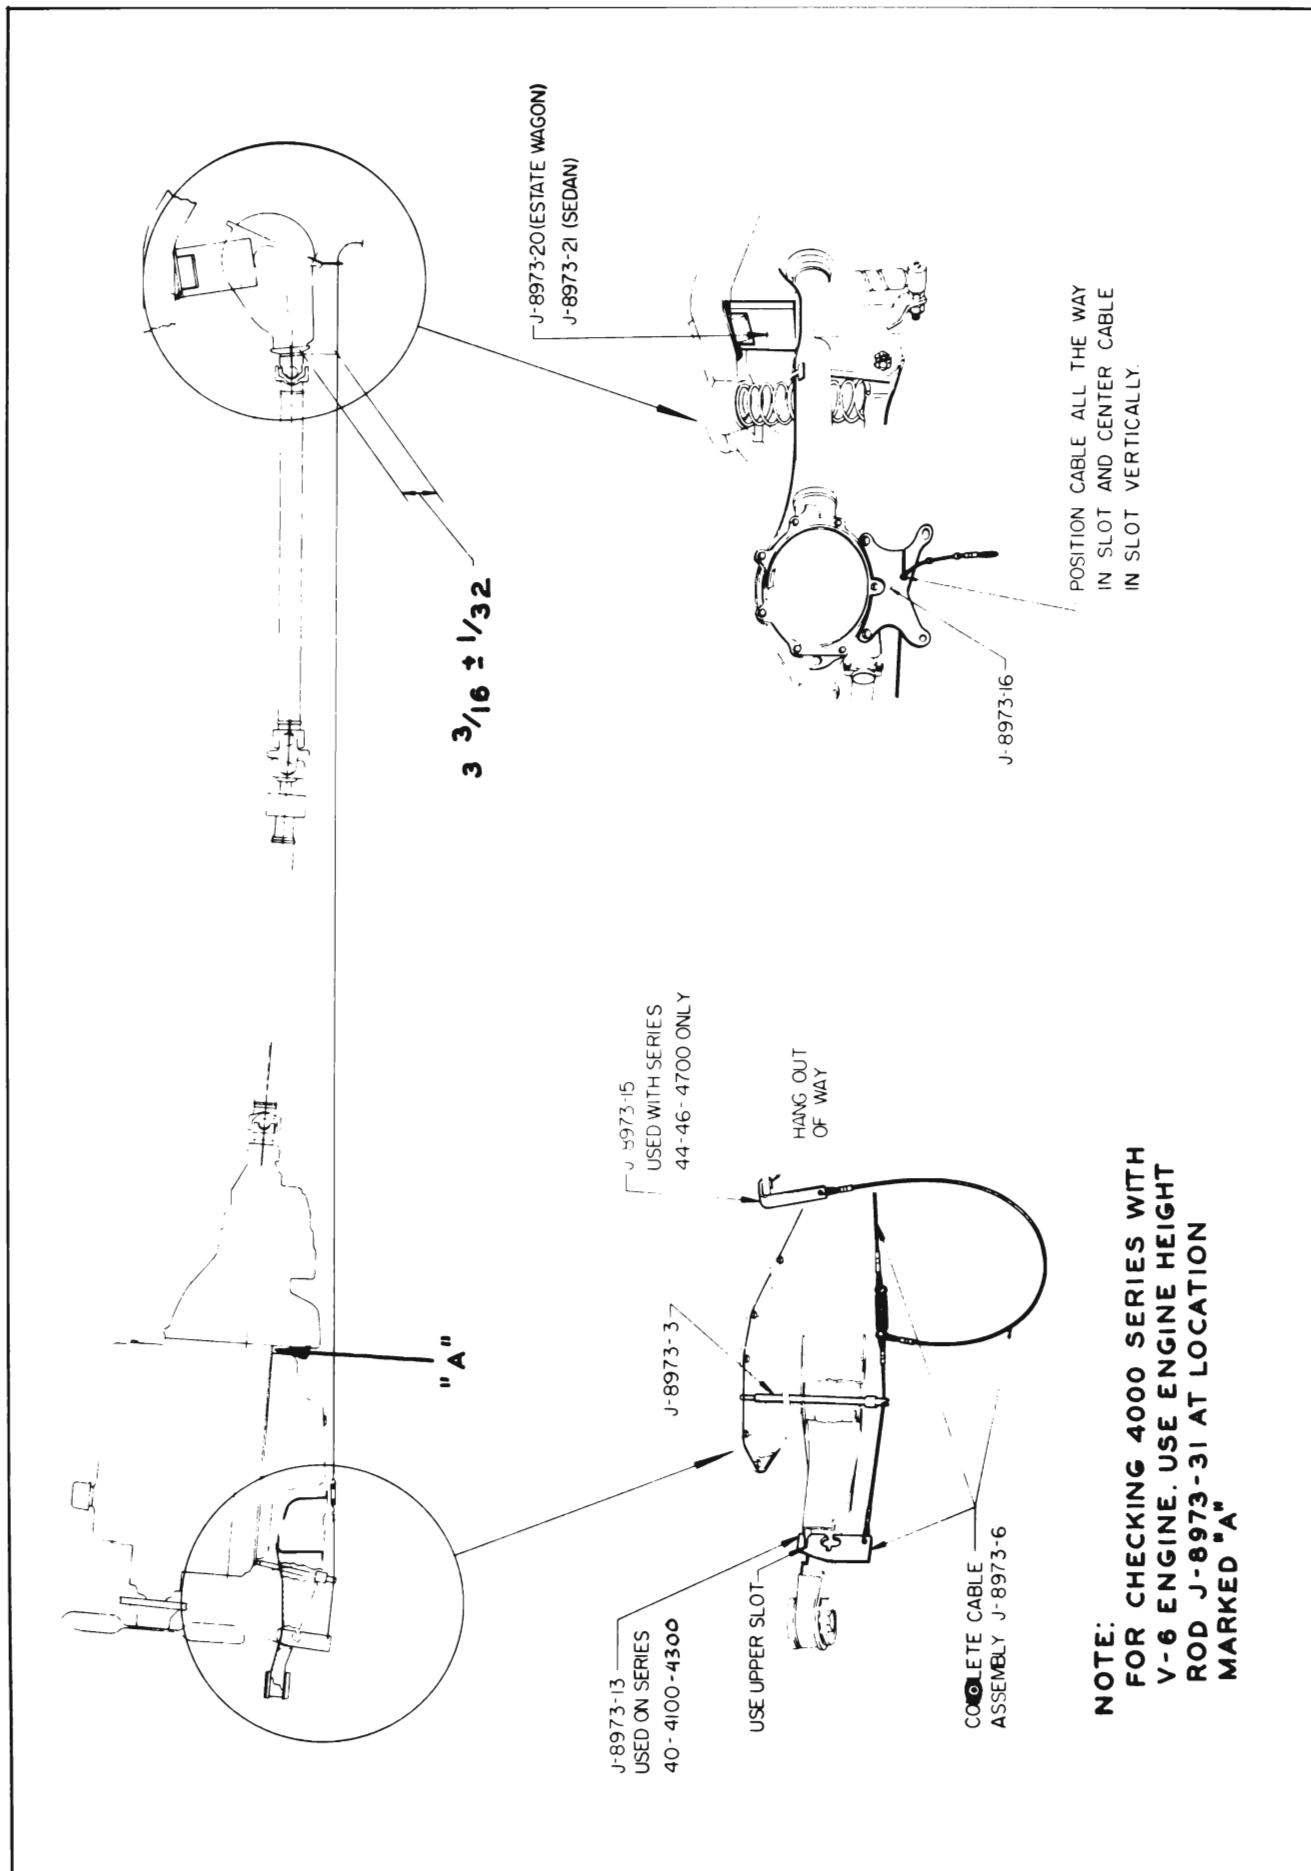

Figure 6-46—Checking Rear Universal Joint Angle
3. Engage front attaching bracket J-8973-13 in front cross member assembly using hole immediately to rear of front mount. Hook slot of bracket into rear of hole. See Figure 6-46
4. Place Engine Height Rod J-8973-3 (notched end down) through round hole in front cross member assembly so upper end of pin bears against engine oil pan between two front oil pan bolts. Place cable in notch of height rod, pull cable tight and hook into rear bracket so one of stops on cable is to rear of bracket slot. It is important that cable is fully in slot and is taut and free of kinks. On Buicks equipped with the V-6 engine, place Engine Height Rod J-8973-31 so that the upper end bears against the engine oil pan between the two rear oil pan bolts. See Figure 6-46, location "A."